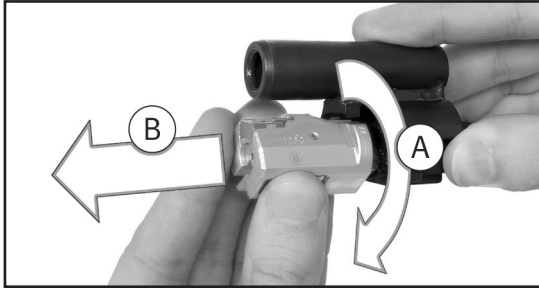

Fig. 39 – Remove the bolt head
2. Turn locking piece clockwise (Fig. 39 Ⓐ)
3. Remove locking piece from bolt head carrier by bringing in forward (Fig. 39 Ⓑ)